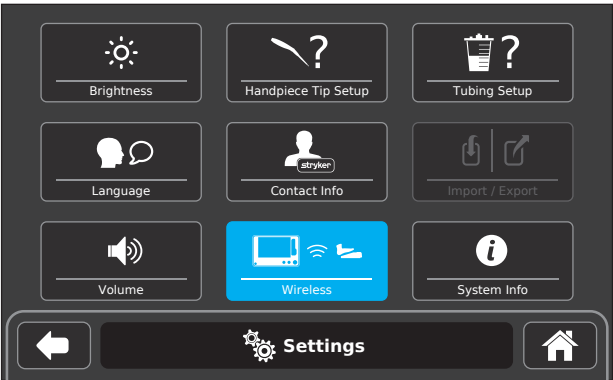

Figure 46 – Access Wireless Connection
- From the system SETTINGS screen or WIRELESS CONNECTION SETUP screen, touch the WIRELESS button (Figure 46).